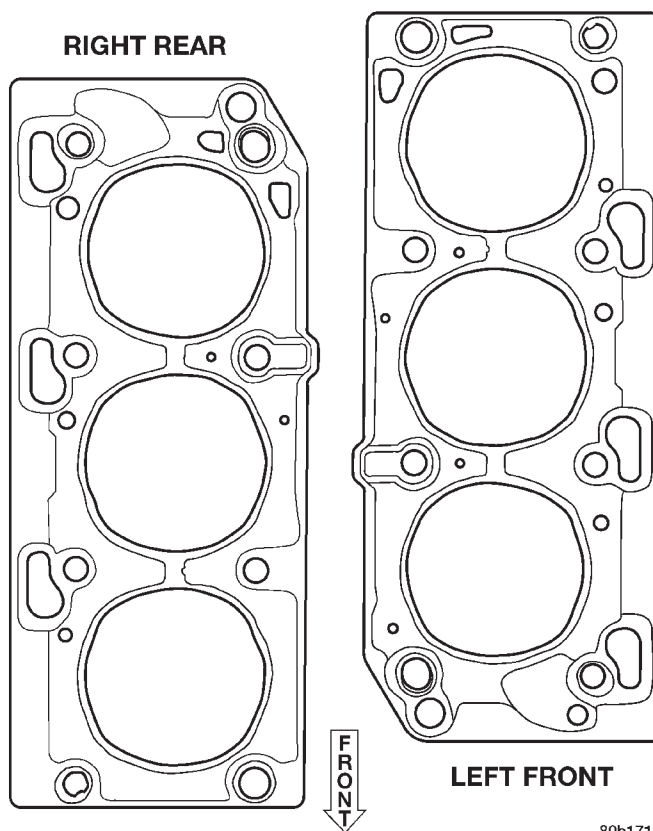

Fig. 41 Cylinder Head Gasket Identification
(2) Install head gasket over locating dowels. Ensure the gasket is installed on the correct side of engine (Fig. 41).